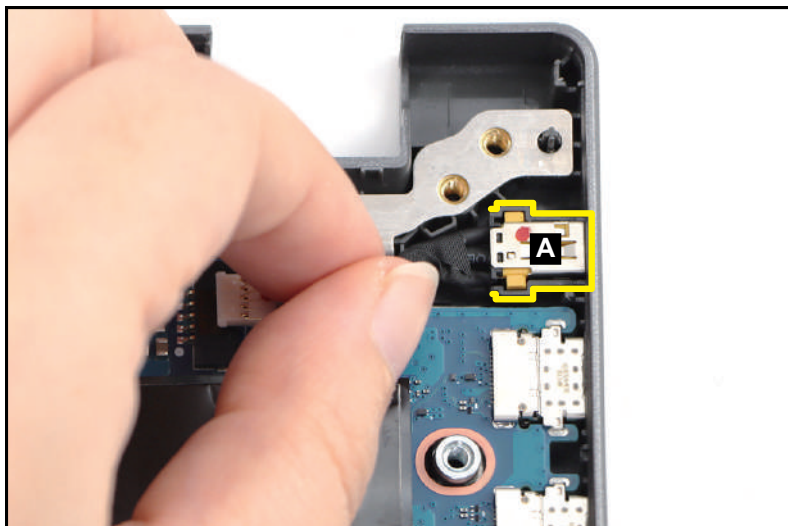

Figure 3-117. Replacing the DC-IN Cable
1. Install the DC-IN cable (A) into its slot on the top assembly (Figure 3-117).